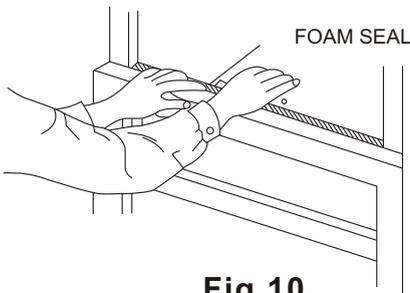

Fig.10
4. Cut Window sash seal foam and insert it in the space between the upper and lower sashes (Fig.10).